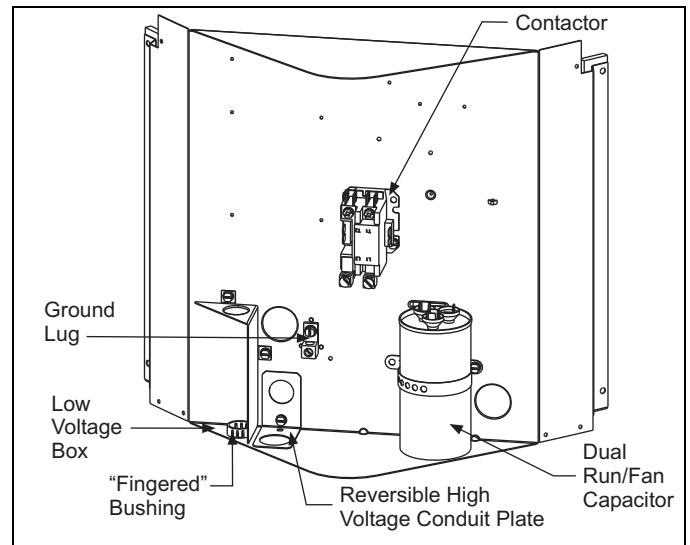
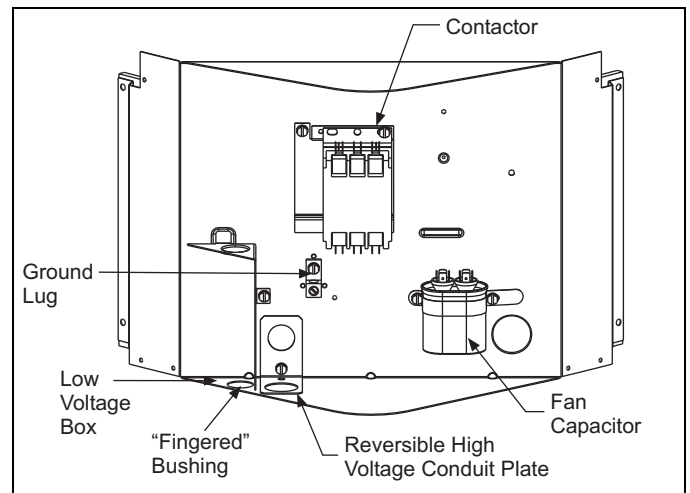

FIGURE 6: Outdoor Unit Control Box (Single Phase)
FIGURE 7: Outdoor Unit Control Box (Three Phase)
4. Route wires from disconnect through power wiring opening provided and into the unit control box as shown in Figures 6 & 7.
1. Route low voltage wiring into bottom of control box as shown in Figure 6. Make low voltage wiring connections inside the low voltage box per Figures 7 - 11.